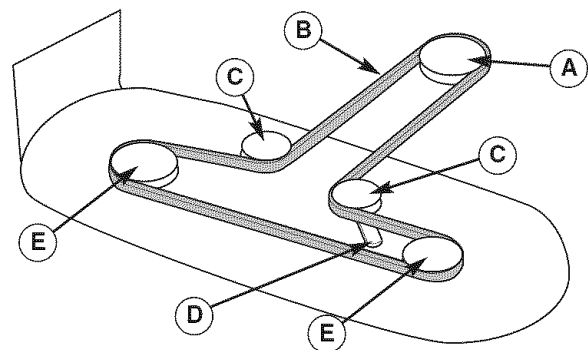

Figure 12. Mower Belt Routing
5. Use the mower belt release lever (D, Figure 12) to release tension on the mower idler pulley, and install the drive belt as shown in Figure 12.